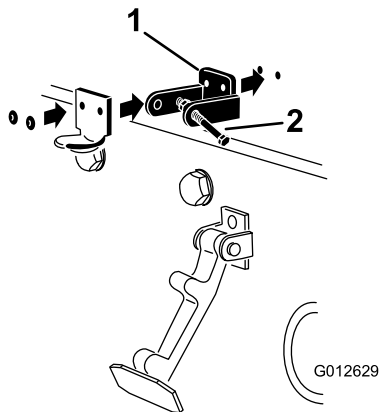

**Figure 15**
2. Remove the (2) rivets securing the hood-latch bracket to the hood (Figure 15) and remove the hood-latch bracket from the hood.